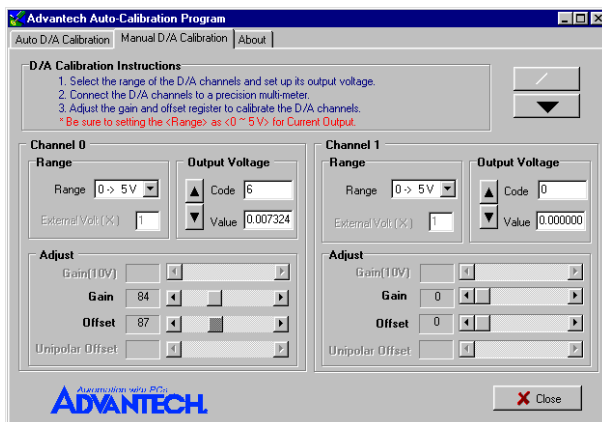

Figure D-11: Adjusting registers
Step 3: According to the difference between the output voltage from D/A channel and the value in the multi-meter, adjust the *gain* and *offset* registers (Fig. D-11)